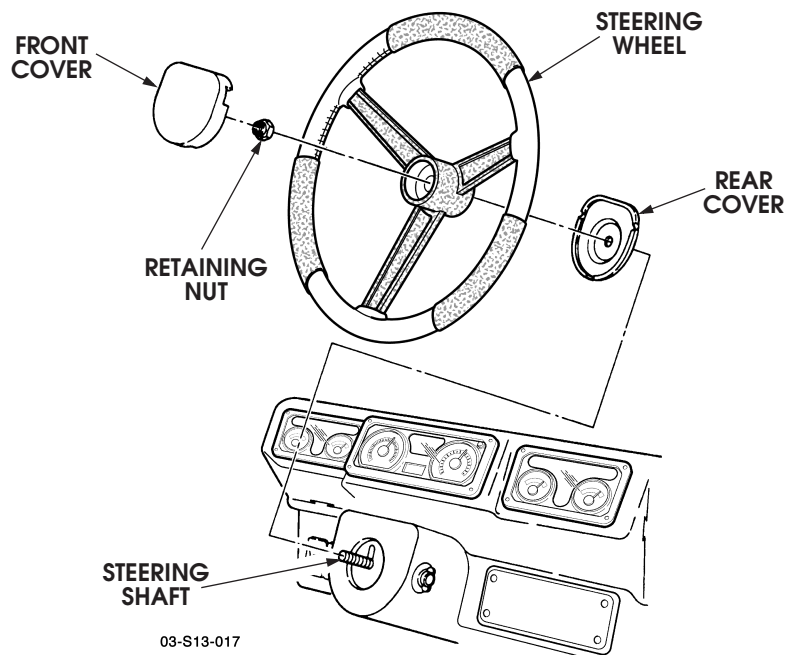

Figure 1: Steering wheel removal for 1996-2003 vehicles.
1. Remove the three screws securing the center trim cover front half to the rear half and remove the front trim cover half from the wheel (See Figure 1).